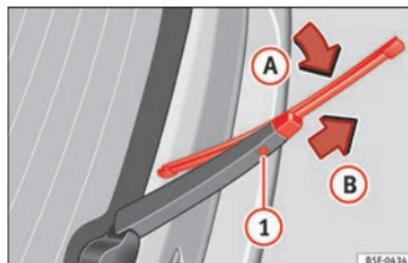

Fig. 201 Changing the rear wiper blade
- Turn the blade slightly » Fig. 201 (arrow A).
- Hold down the release button ❶ while gently pulling the blade in the direction of the arrow B.
- Insert a new blade of the **same length and type** in the rear wiper arm in the opposite direction to the arrow B and hook into place button ❶.